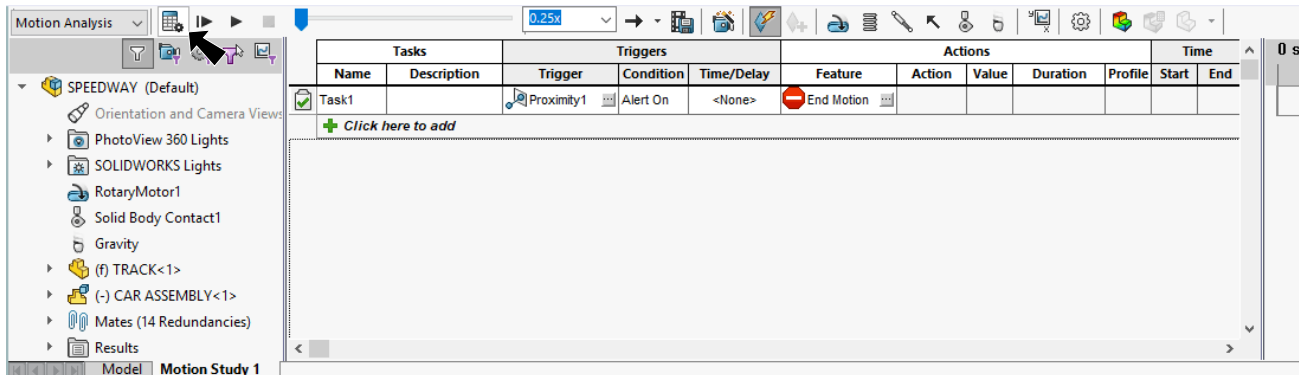

Fig. 21
Step 5. Click Zoom to Fit  (F) on the View toolbar.
Step 6. Click **Calculate**  and **Play from Start**  on the Motion Manager toolbar, **Fig. 21**. The Motion Study will stop when Car “trips” the sensor.